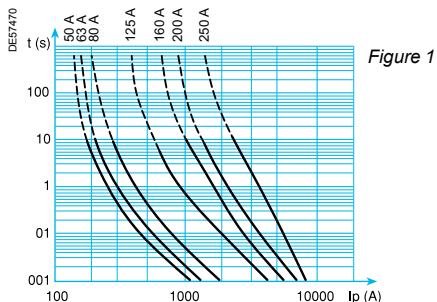
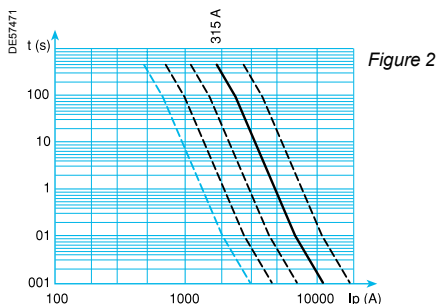

Figure 1
Figure 2
The two curve systems (Fig. 1 and 2) can be used to determine the maximum current surges accepted by the Rollarc 400 contactor, in temporary or periodic service.
- Temporary service: knowing the steady state current  $I_p$ , we can determine the maximum duration  $T_s$  of a current surge  $I_s$  from **graph 1** (Fig. 2).
We can determine the 4th parameter using **graph 2** (Fig. 1 and 2).
The trip curves for Fusarc CF (figure 1) and Ferraz (figure 2) fuses are shown above. These are the average curves with an rms current value tolerance  $I \pm 10\%$ .
The trip curves for FUSARC CF (Fig. 1) and FERRAZ (Fig. 2) fuses are shown opposite. These are the average curves with an rms current value tolerance  $\pm 10\%$ .